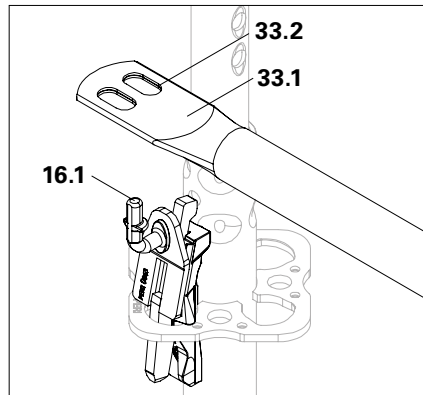

Fig. A5.08a
1. Turn the connecting pieces (**33.1**) of the guardrail horizontally and place them on the Guardrail Hook EPW. (Fig. A5.08a)